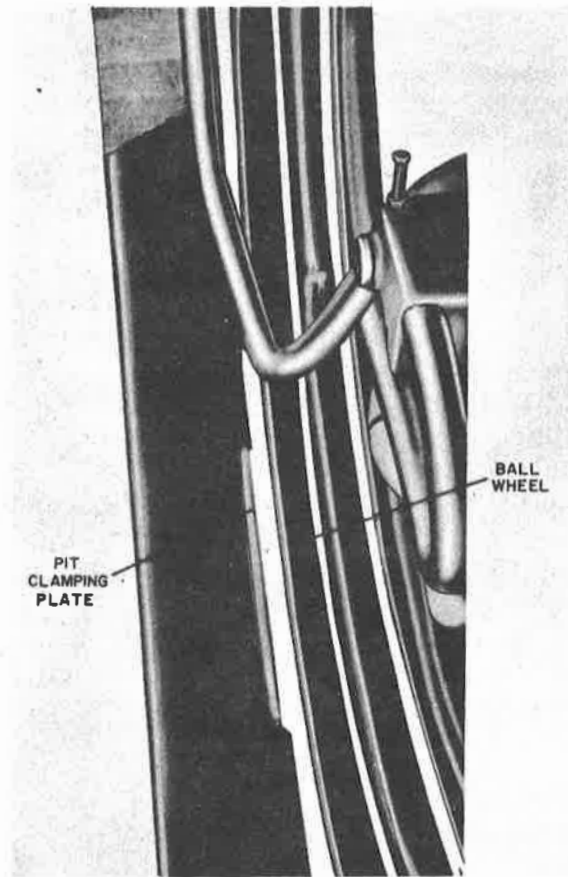

Figure 79. Pit Conveyor Adjustment
24. PIT CONVEYOR ADJUSTMENT. (FIGURE 79)